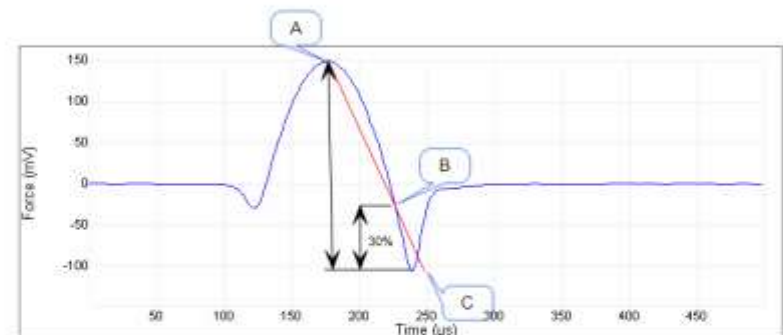

Figure 4: The Threshold Crossing adhesion algorithm
- Draw a line (shown in red in Figure 4) between Point A, the peak force (vs. time), and a second Point B that is 30% above the global minimum. Extend this line to the global minimum force, Point C. The adhesion force is the minimum value to the left of Point C.